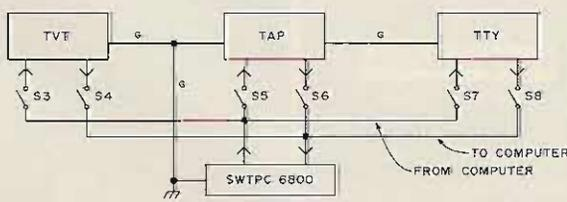

Fig. 3.
The peripheral unit selection switches are straight-forward on-off control of the input and output of the RS232 data to and from the units. A wiring diagram for the switching is shown in Fig. 3. Additional peripheral devices can be controlled by additional pairs of switches on the control panel.
Step 6. Connect the computer side of switches S3, S5 and S7 together. This forms the "output from computer" bus. Connect the computer side of switches S4, S6 and S8 together. This forms the "input to computer" bus. You have now established common input and output buses for the computer. Connect switch S3 to the input side and switch S4 to the output side of the TV terminal (TVT). Connect switches S5 to the input side and S6 to the output side of the tape recorder (TAP). Connect switches S7 to the input side and S8 to the output side of the Teletype (TTY). The grounds for all peripheral devices and the computer are connected together, as shown by line G in Fig. 3.